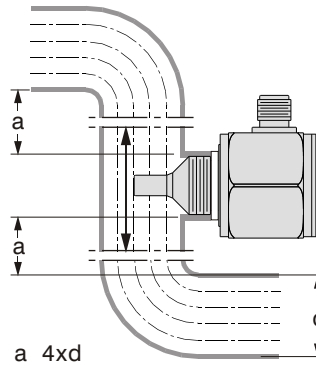

Fig. 1
- (1) Please assure the minimum distance to the tube bends and intersections greater than four times of pipe diameter. (See Fig. 1)